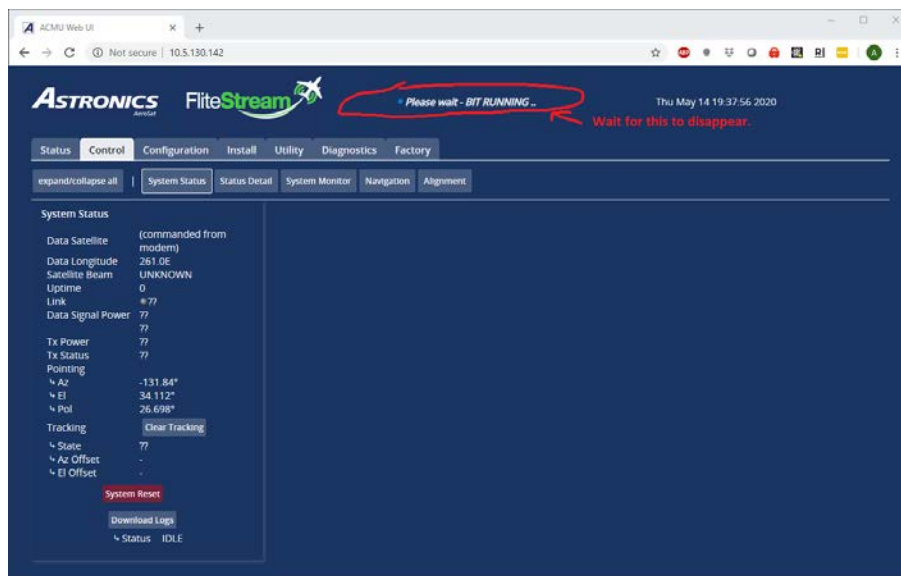

Figure 7.1.1 System Check
3. Wait for “system\_check” to complete. The “Please wait - BIT RUNNING” message will disappear when system\_check is complete. Reference figure 7.1.1.